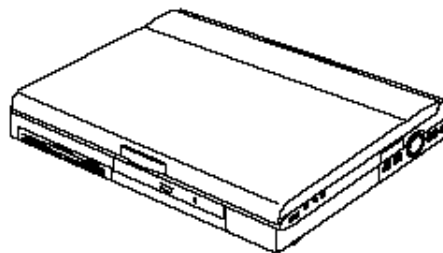

Figure 1-1 LifeBook 900 Series Notebook
- LifeBook 900 Series from Fujitsu. (Figure 1-1.)